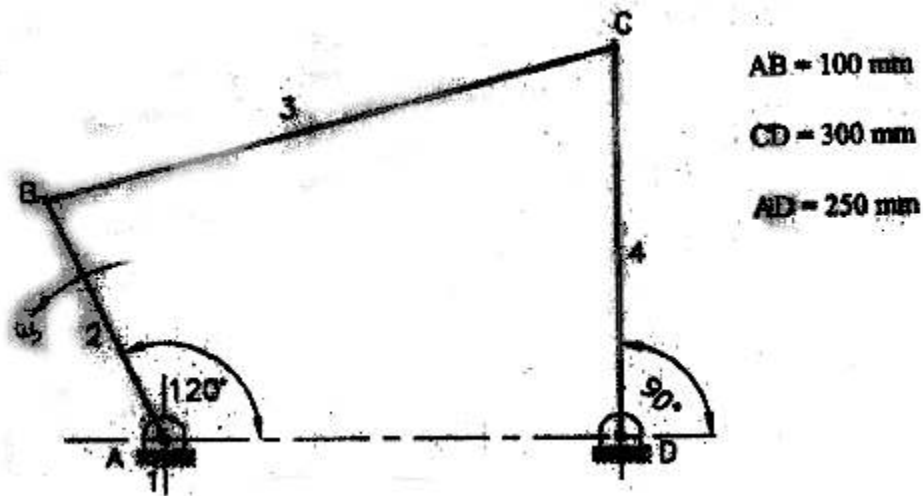

Fig. 6
- (b) The four bar mechanism ABCD is shown in the following Fig. 6 which is driven by link 2 at $\omega_2 = 45$ rad/sec, counterclockwise.